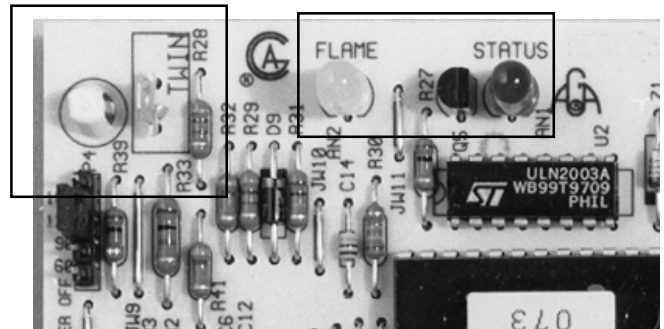

Figure 28.
- E. Twinning Terminal - The function of twinning is to insure simultaneous blower operation on two furnaces. The G6 series is twinning ready. The 3/16" quick connect terminal on the board must be connected to the other furnace control. The thermostat wiring is provided in the diagram. See Figure 28 for location and Figure 13 on page 17 for Twinning Diagram.
- F. Diagnostic Lights - the diagnostic light feature is to aid the service technician in identifying the nature of the problem. See Figure 28.